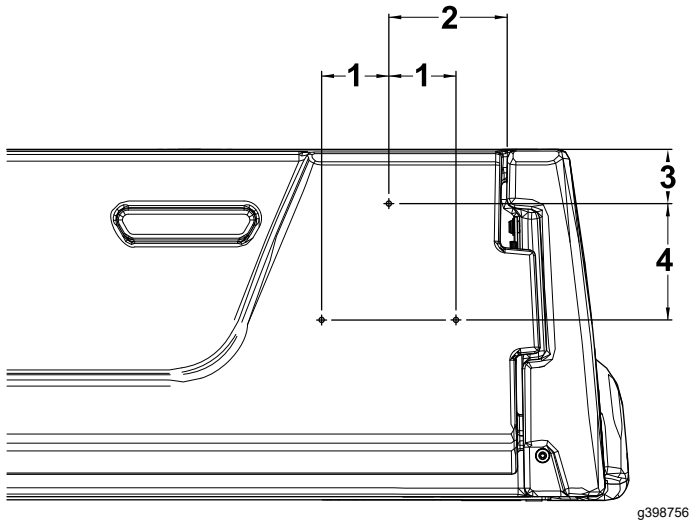

Figure 17
1. On the right side of the tailgate, measure 130 mm (5-1/8 inches) from the right edge of the tailgate and 60 mm (2-5/16 inches) from the top of the tailgate, and mark this location (Figure 17).
2. Measure 128 mm (5 inches) down from the hole marked in step 1 and 74 mm (2-7/8 inches) to the right and left mark 2 locations (Figure 17).
3. Drill a 5 mm (13/64 inch) hole at each of the 3 marked locations (Figure 17).